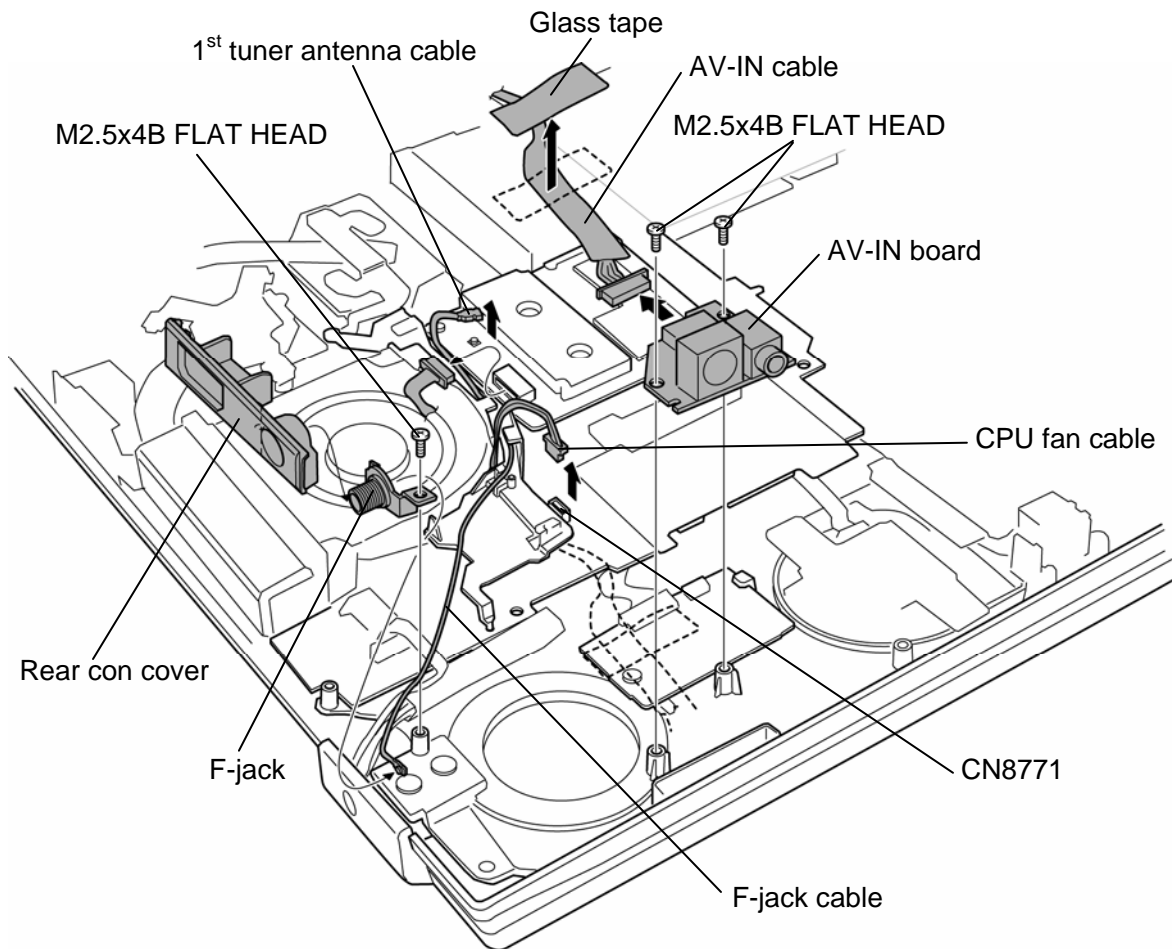

Figure 4-35 Removing the AV-IN board/F-jack/Rear con cover (one tuner model)
2. Disconnect the **F-jack cable** from the F-jack and remove the following **screw** securing the F-jack. (Only for tuner-mounted model, See Figure 4-35 and 4-36)
3. Remove the **F-jack** from the slot. (Only for tuner-mounted model, See Figure 4-35 and 4-36)